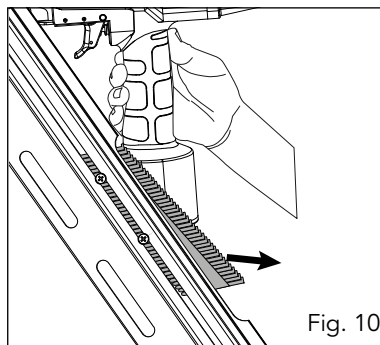

Fig. 10
3. Tilt the tool up so that the fasteners slide to the rear of the magazine (5) and remove (fig. 10).